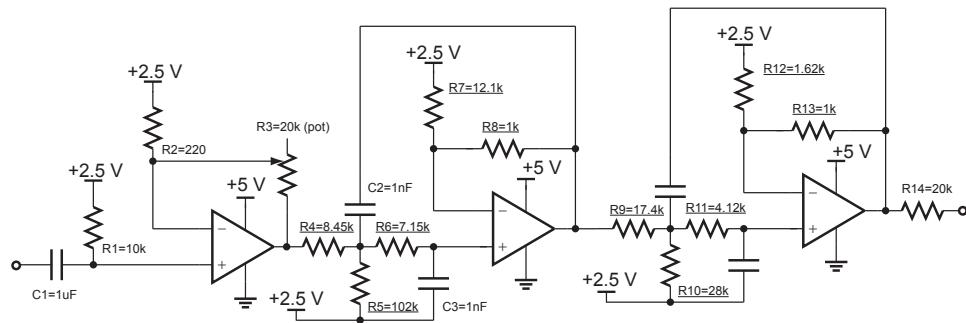

Figure 15: Schematic of the active low-pass filter. Underlined resistors values are 1% tolerance.
Fig. 15 shows the schematic of the active LPF circuit. The filter has a cut-off frequency of **15 kHz** and was designed with the TI WEBENCH filter design tool.
1. Identify the gain stage in Fig. 15. What is the expression of its gain? Notice the +2.5 V bias does not affect this result, rather it simply shifts
1. Identify the active LPF portion of the circuit in Fig. 15. The overall filter consists of 2 low pass filters. What is the order of the overall filter and how is it determined from the schematic?
3. To measure just the filter response, disconnect R4 and R14 from the circuit (Fig. 15). Input a 3 Vpp signal in place of R4 and measure the output in place of R14. Tabulate and plot the frequency response from 100 Hz to 150 kHz. What is the cutoff frequency of the filter?